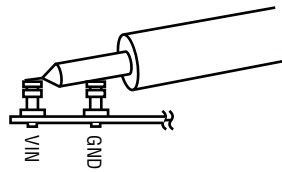

Figure 2. Measuring Input or Output Ripple
NOTE: When measuring the input or output voltage ripple, care must be taken to avoid a long ground lead on the oscilloscope probe. Measure the input or output voltage ripple by touching the probe tip directly across the  $V_{IN}$  or  $V_{OUT}$  and GND terminals. See the proper scope probe technique in Figure 2.
5. Set the load current of both outputs to 3A and the input voltage to 12V, then measure each output ripple voltage (refer to Figure 2 for proper measurement technique); they should each measure less than 20mVAC. Also, observe the voltage waveform at either switch node (pins 16 and 17 for channel 1, and 23 and 24 for channel 2) of each regulator. (Both switch node waveforms should be rectangular in shape and 180° out-of-phase with each other). The switching frequencies should be between 800kHz and 1.2MHz ( $T = 1.25\mu$ s and 0.833 $\mu$ s).